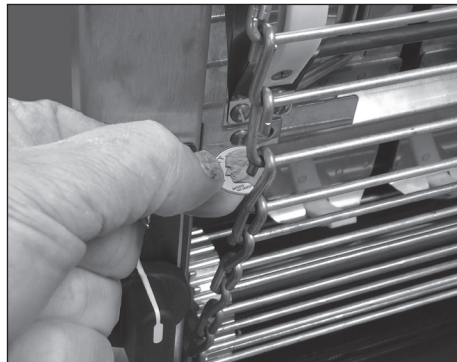

Figure 9. Measuring Conveyor Belt Chain
6. Pull the chain away from the edge of the toaster (Figure 9).
7. Measure the distance from the frame of the unit and the chain. A U.S. Dime (1.8 cm) can be used for the measurement (Figure 9).